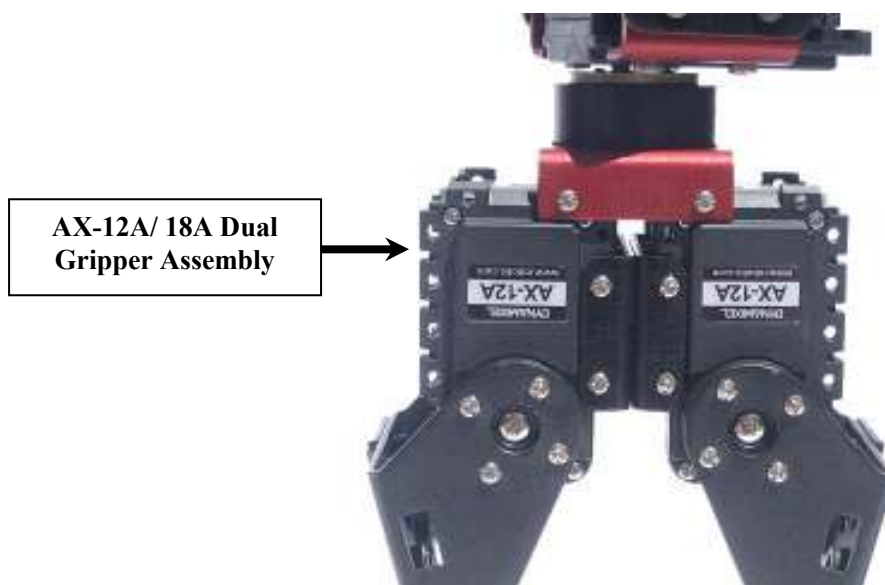

Figure 57
7. Using the AX-12A screws and nuts, install the AX-12A/AX-18A Dual gripper to the assembly in the previous step as shown in figure 57.